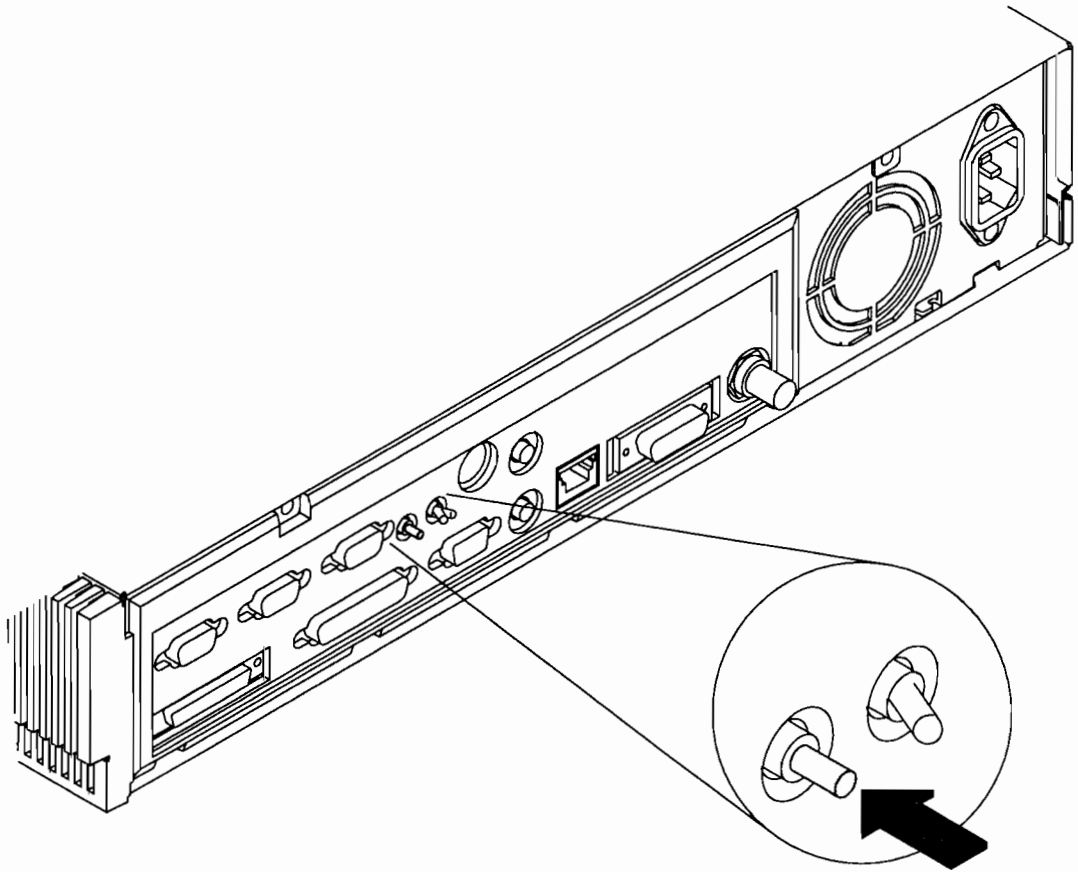

Figure 8-6. Resetting the System Manually
8. Because the crash status message didn't appear, you must manually reset your system. To do this, press the Reset switch on the workstation's rear panel as shown in Figure 8-6.